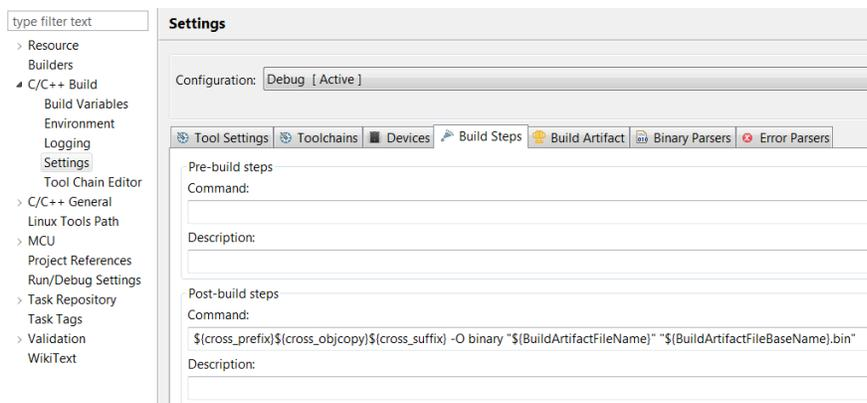

Figure 2. Adding a Post-Build Step
4. Add a post-build step to generate the binary (*.bin*) file required by the bootloader, as shown in Section 3.3, “Image Format” on page 4. In the project settings, navigate to **C/C++ Build > Settings > Build Steps > Post-build steps > Command** as shown below in Figure 2, and add the following command to generate the binary image: